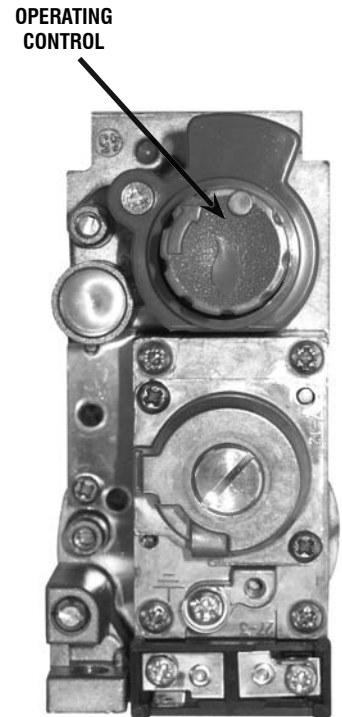

FIGURE 1.
- 2.1.2 Referring to Figure 1 & 2, identify the positions of the Multifunctional Control OPERATING CONTROL, the PILOT BURNER and IGNITION BUTTON.